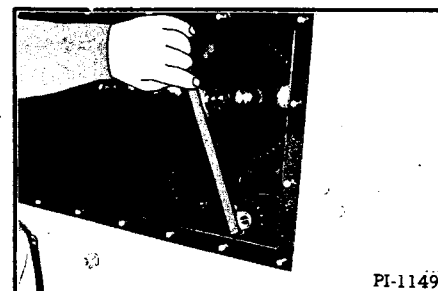

Fig. 40 Checking Sprocket Alignment
6. Mount the sprocket on the end of the jackshaft. Align the sprocket with the outside clutch sprockets (Figure 40).